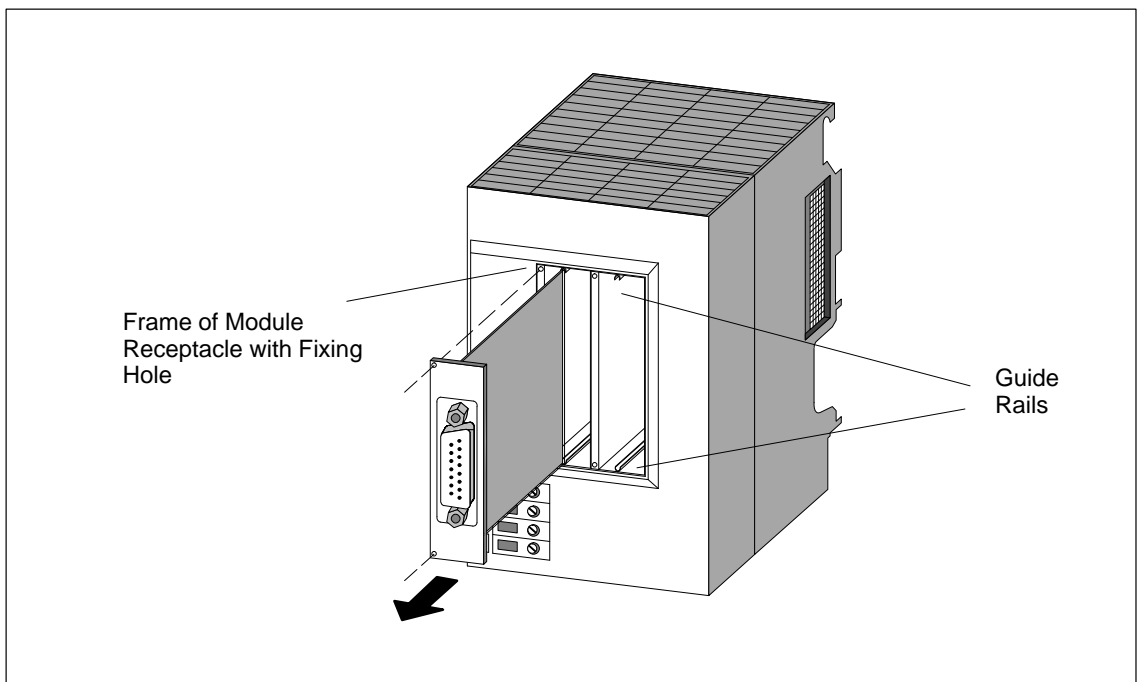

Figure 5-6 Pulling an Interface Module out of an Expansion Module
11. If you wish to replace an EXM 378 expansion module, remove the interface modules as follows (see Figure 5-6):